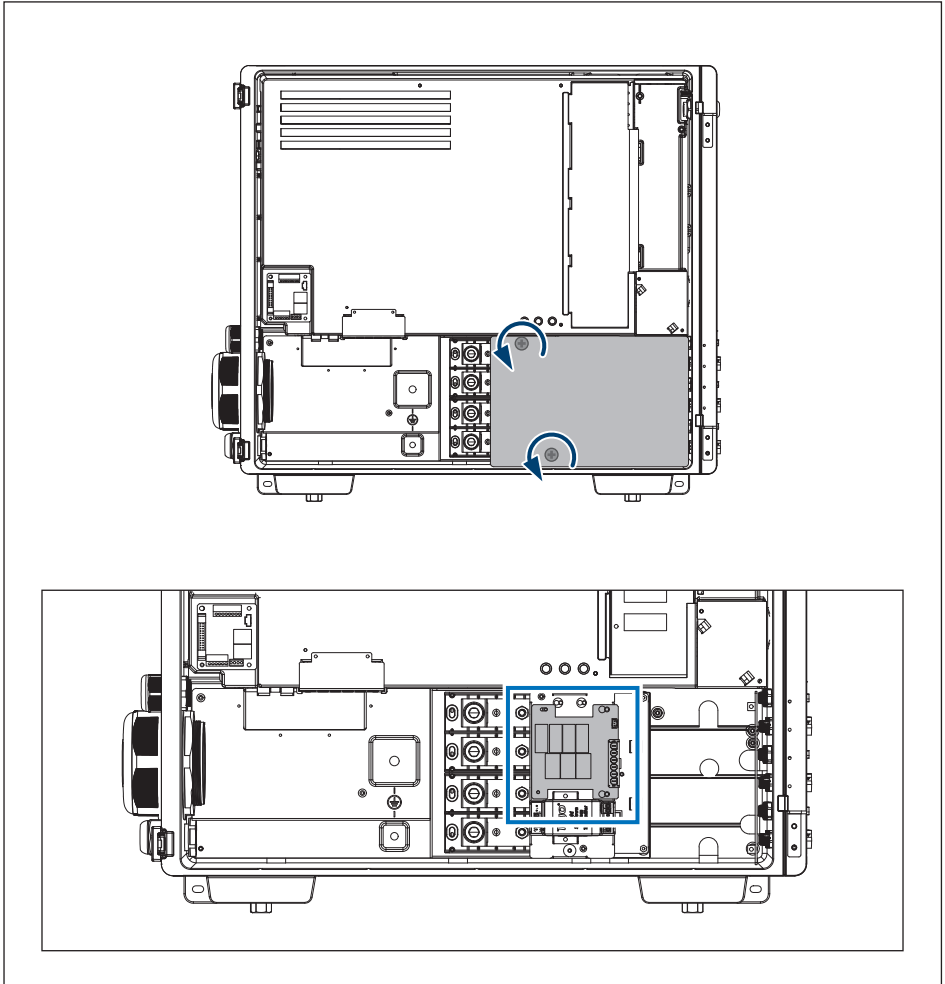

Figure 5-6: Remove the protective cover
3. Remove the protective cover and then appear SPD. (**Figure 5-6**)